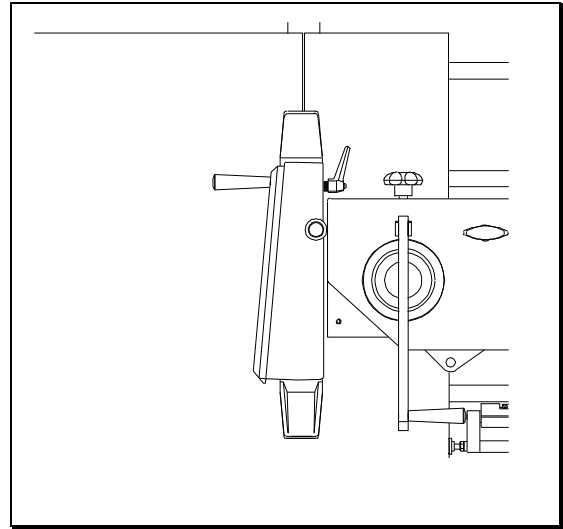

Figure 17
- 6 Pull the saw-blade steadily down through the material (Figure 17).